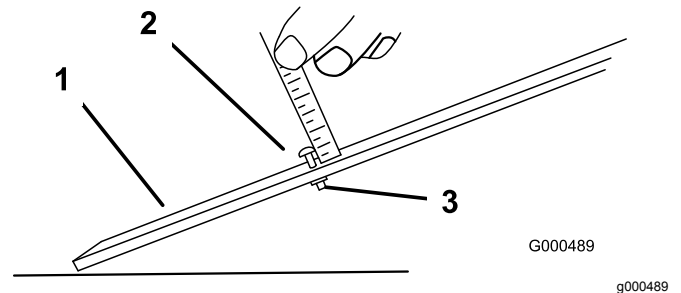

Figure 10
2. Loosen the nut on the gauge bar and set the adjusting screw to the desired height of cut (Figure 10).